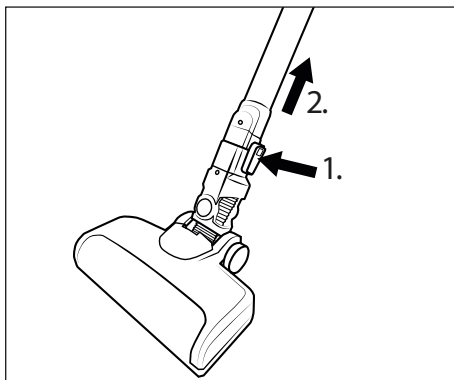

Fig. 12
- ◆ To remove the floor brush 22 from the suction pipe 24, hold down the floor brush release button 23 and pull the suction pipe 24 off the floor brush 22 (see Fig. 12).